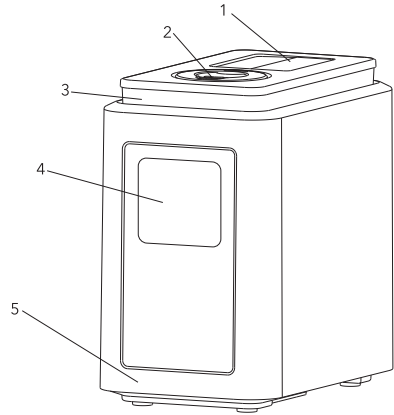

Fig. 1 Device
1. Holding the handle, remove the water tank from the device (see fig. 1)
When moving the humidifier, always hold the device by the base (Fig. 1), in order to avoid the fall of the part of the device, with the main electronic components. If there is water in the device, in order to avoid its entry into the electronic units through the air outlet (Fig. 2), keep it horizontal.